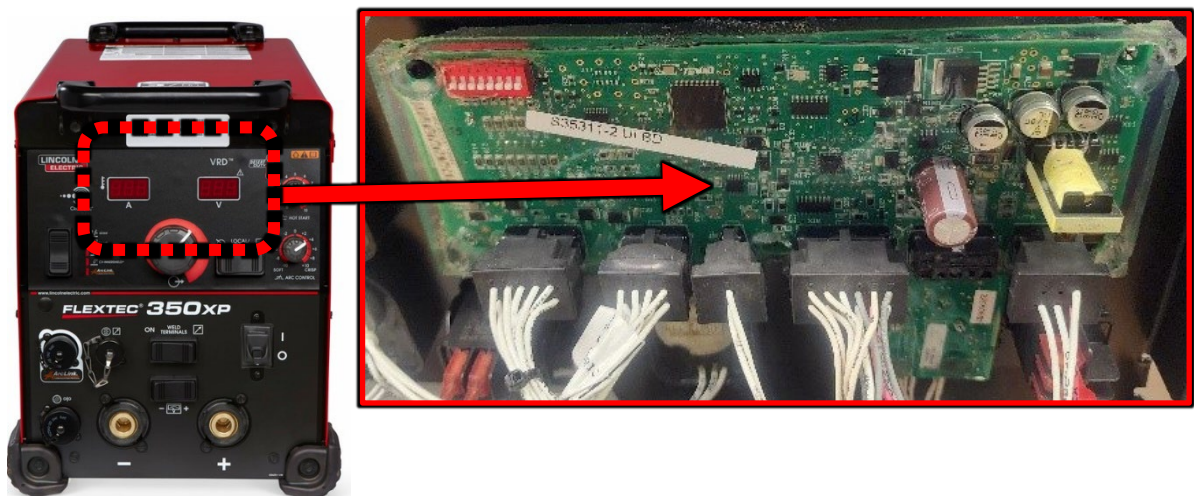

Figure F.1
1. For location of the User Interface Board refer to Figure F.1.